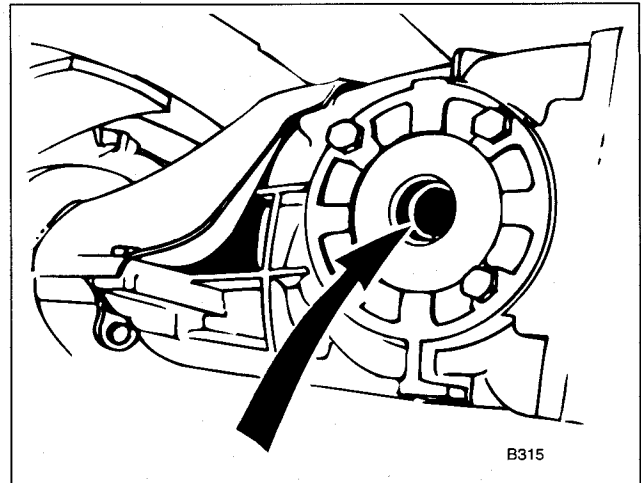

Fig. 3. Drive flange snap ring (arrow) to be removed from final drive housing.
4. Remove wire (snap) ring from final drive opening. See Fig. 3.